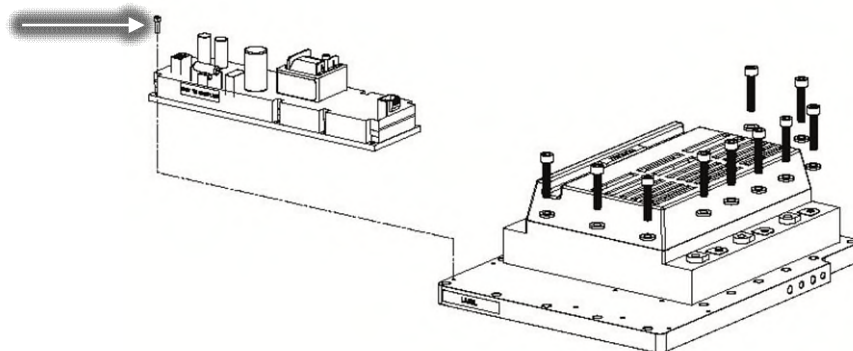

Figure 19 – DC-DC Removal
34. Remove the DC-DC from the Inverter cooling manifold if it is to be reused. Refer to Figure 19 (DC-DC Removal).